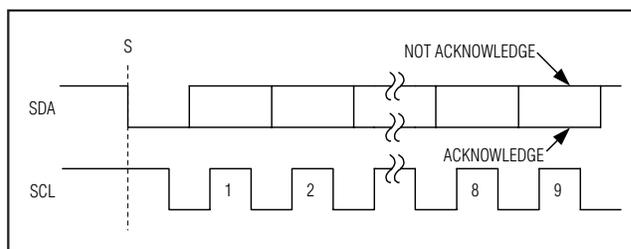

Figure 6. Acknowledge Bits
Data transfers are acknowledged with an acknowledge bit (A) or a not-acknowledge bit (\bar{A}). Both the master and the MAX11606-MAX11611 (slave) generate acknowledge bits. To generate an acknowledge, the receiving device must pull SDA low before the rising edge of the acknowledge-related clock pulse (ninth pulse) and keep it low during the high period of the clock pulse (Figure 6). To generate a not-acknowledge, the receiver allows SDA to be pulled high before the rising edge of the acknowledge-related clock pulse and leaves SDA high during the high period of the clock pulse. Monitoring the acknowledge bits allows for detection of unsuccessful data transfers. An unsuccessful data transfer happens if a receiving device is busy or if a system fault has occurred. In the event of an unsuccessful data transfer, the bus master should reattempt communication at a later time.